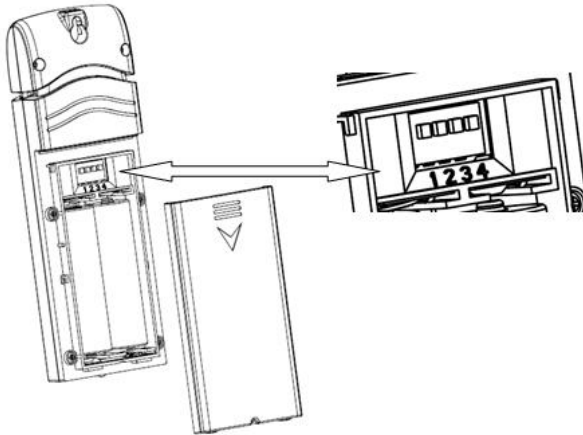

Figure 13: Battery installation for Multi-channel sensor
Note: To avoid permanent damage, please take note of the battery polarity before inserting the batteries. Looking at Figure 13 from left to right the left-most (or bottom) battery is to be installed with its + terminal pointing down, and the other battery with its + terminal pointing up.
1. Remove the battery door on the back of the transmitter(s) by sliding down the battery door, as shown in Figure 13.